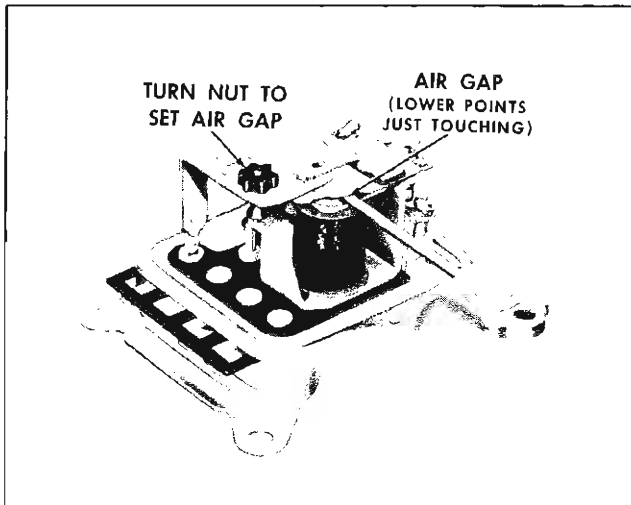

Fig. 11-33 Checking Air Gap
10. The difference in voltage between the operation of the upper set of contacts and the lower set is increased by slightly increasing the air gap between the armature and center of core and decreased by slightly decreasing the air gap (see Fig. 11-33) for changing the voltage regulator air gap. If it is found necessary to make this air gap adjustment, it will be necessary to recheck the voltage setting of both sets of contacts.
**Air Gap:** Measure the air gap with a feeler gauge placed between the armature and core when the lower contacts are touching as shown in Fig. 11-33. If necessary adjust to .057" by turning the nylon nut located on the contact support.